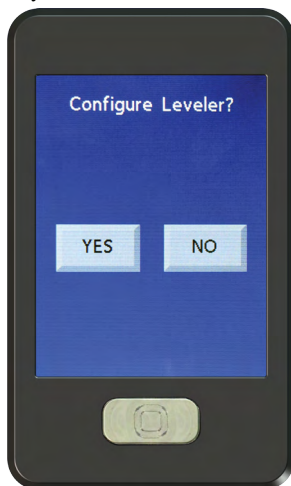

Fig.38
- A. After all the functions have been assigned a "title," the next screen will ask: "Configure Leveler?" If you are equipped and want to have leveling available on your transmitter, select YES. If not, select NO at this time (Fig. 38).